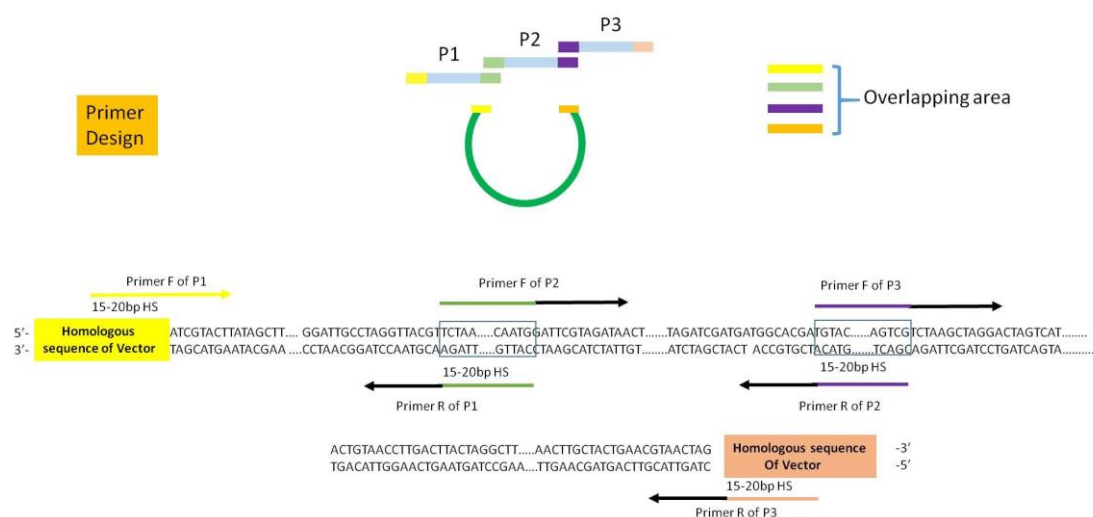

Figure 6
- Three types of the primer design of insert B are shown in Figure 6.
- For the primer design of fragments of A and C, refer to Figure 6 (primer design for a single-fragment homologous recombination).